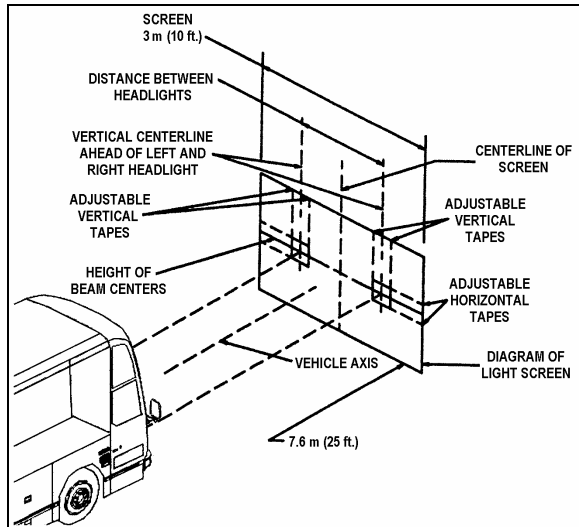

FIGURE 34: ALIGNMENT OF HEADLIGHT AIMING SCREEN 06502
3. The headlight centerlines shall be spaced either side of the fixed centerline on the screen by 1/2 the lateral distance between the light source centers of the pertinent headlights. The horizontal tapes should be located on the screen at the upper and lower limits called for in the specification with reference to the height of beam centers and the plane on which the vehicle rests, not the floor on which the screen rests (Fig. 34).